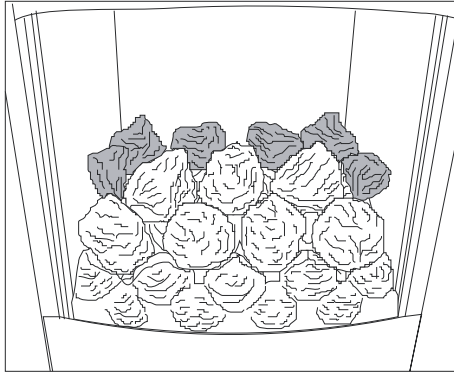

Figure 26
6. Place the 6 Small coals around the sides and the back as shown in **Figure 26**.